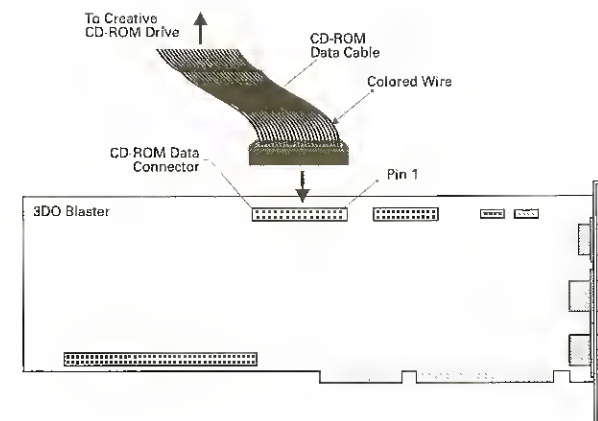

Figure 2-10: Reconnect CD-ROM Data cable from Creative CD-ROM drive to 3DO Blaster.
2. Reconnect the CD-ROM Data cable to the CD-ROM Data connector on your 3DO Blaster as shown in Figure 2-10.